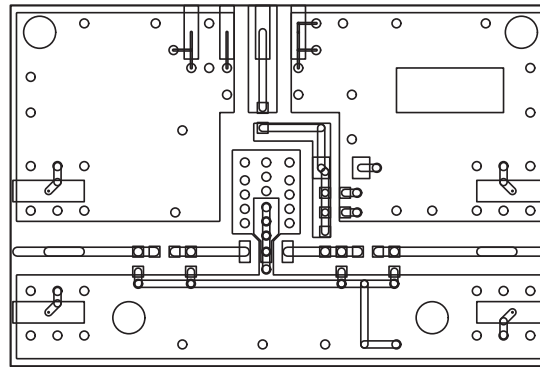

**Figure 62. SKY65045 Evaluation Board Assembly Drawing**
The Skyworks SKY65045 Evaluation Board is used to test the performance of the SKY65045-70LF PA driver. The Evaluation Board schematic diagram is shown in Figure 62. An assembly drawing for the Evaluation Board is shown in Figure 63 and the layer detail is provided in Figure 64. The layer detail physical characteristics are noted in Figure 65. Tables 11 and 12 (747 MHz and 897.5 MHz, respectively) provide the Bill of Materials (BOM) list for Evaluation Board components.
3. Skyworks recommends including external bypass capacitors on the DC supply lines. An RF inductor is required on the VCC supply line to block RF signals from the DC supply. Refer to Figure 62 for more detail.